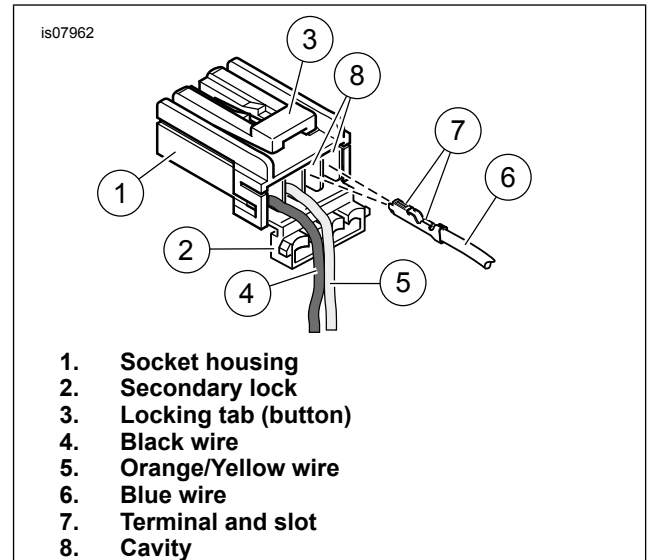

Figure 2. Socket Terminal Installation
3. On the **new** LED lamp assembly, the Blue wire (6) and socket terminal are not installed in the socket housing (1). Refer to the original lamp removed in Step 2, and observe which cavity contains the Blue wire. The Blue wire and terminal must be installed into the **same** cavity in the socket housing of the new lamp:
- a. Open the secondary lock (2) outwardly (as shown).
- b. See Figure 2. On the secondary lock side of the socket housing (1), position the terminal and slot (7) with the slot facing up (in the same direction as the locking tab button (3) on the top of the socket housing).
- c. Insert the terminal into the correct cavity (8) until it snaps into place with an audible "click".